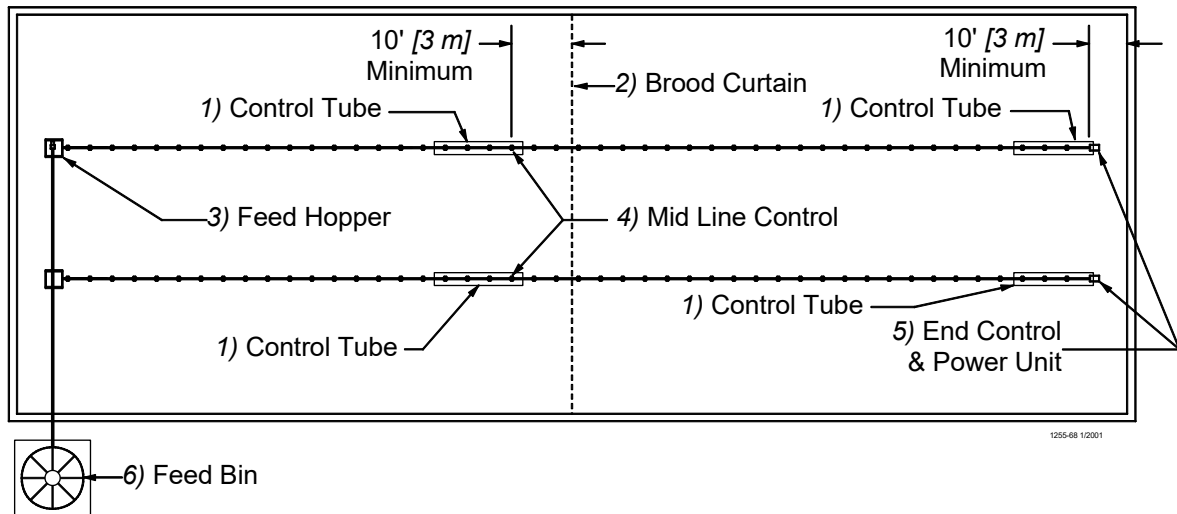

Figure 1.Component location diagram for systems up to 400 feet [122 m]. (Top View).
A. Optional Mid Line Controls may be used for partial house brooding, see **figure 1**.